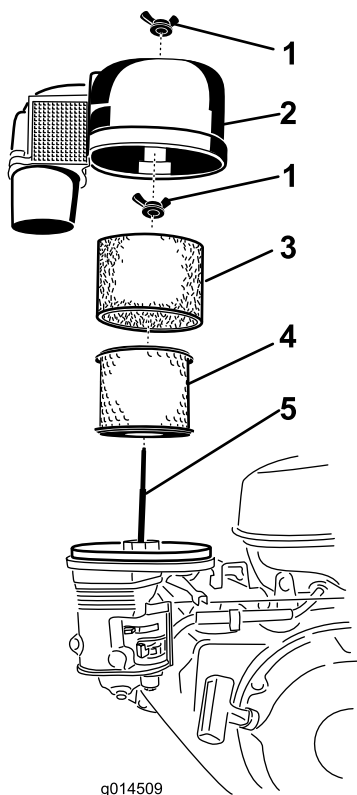

Figure 15
1. Remove the wing nut and lift off the cyclone filter with the air-filter cowl (Figure 15).